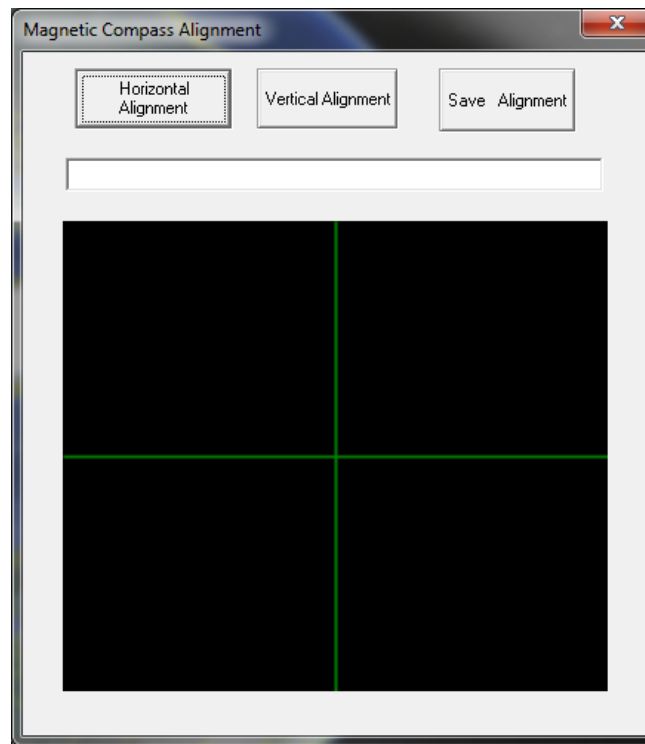

Figure24 Alignment window
2. Select “Settings(S)” → “Magnetic Compass (M)” for the “Magnetic Compass Alignment” window as shown in Figure24.